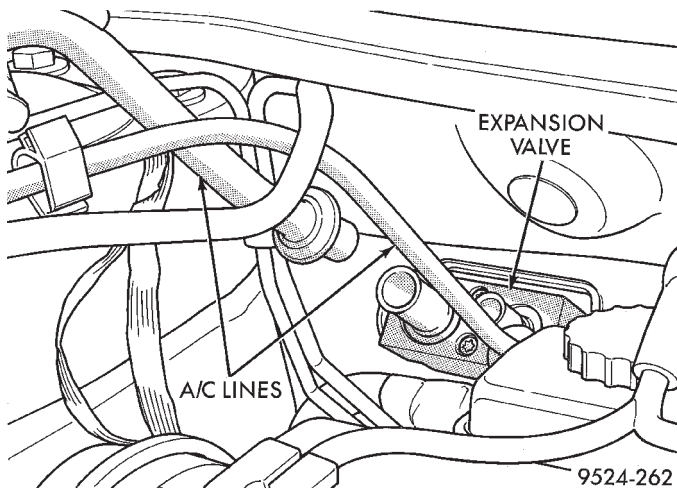

Fig. 48 Lines At Expansion Valve
- (4) Remove lines at expansion valve (Fig. 48).